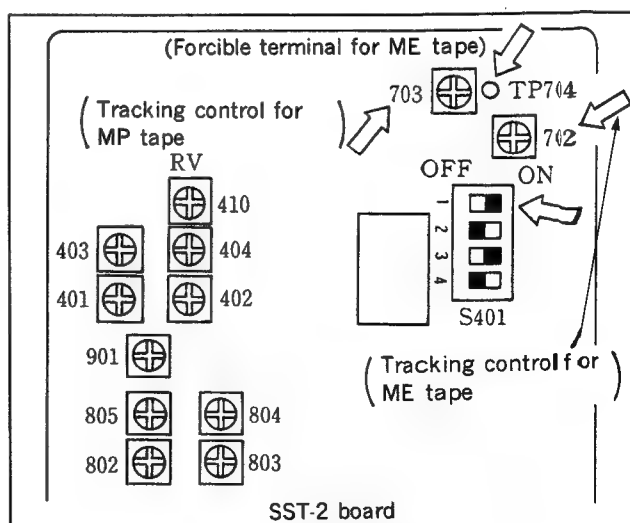

Fig. 6-9-9 REC head tracking adjustment
8. While holding the conditions from step 2 thru. step4, short between TP704 on SST-2 board and GND with a shorting clip lead (see Fig. 6-9-9).
9. Play back the recorded portion at step-1 of the tape, maximize the RF wave shape (video center portion) by using RV702 on SST-2 board. (See Fig. 6-9-9.)